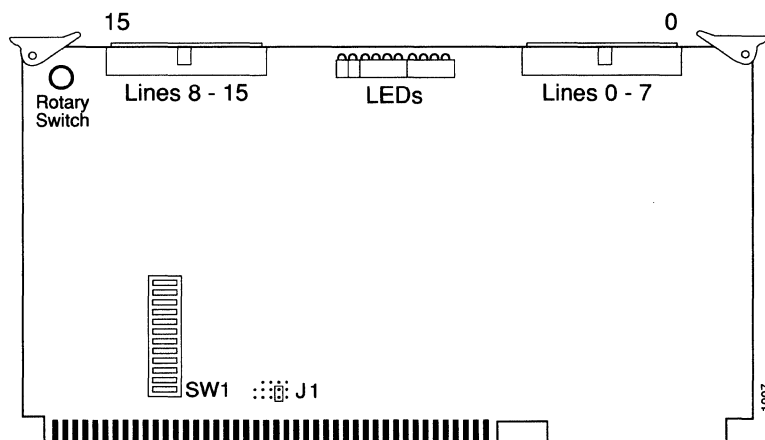

Figure 5-35 CSC-16 Card — Component Side View
- Step 5:** The CSC-16 card has two connectors; each carries signals for eight asynchronous serial lines. (Refer to Figure 5-35 .) Attach a 50-pin cable to each connector on the interface card. Attach the opposite end of the cable to the 50-pin master connector, which is attached to one of the following external connector and/or appliques assembly types:
- Step 7:** Check the LEDs. Near the center of the card edge, which is visible when the card is installed, are ten LEDs that display the line state of two RS-232 ports (one port on each half). Near the right edge of the card (on the left side as oriented in Figure 5-35) is a 10-position rotary switch that can be operated with a small screwdriver. At one end of the screwdriver slot is a pointer. This pointer identifies which pair of ports are being monitored in the LED display. (Figure 5-36 describes the LED display.)